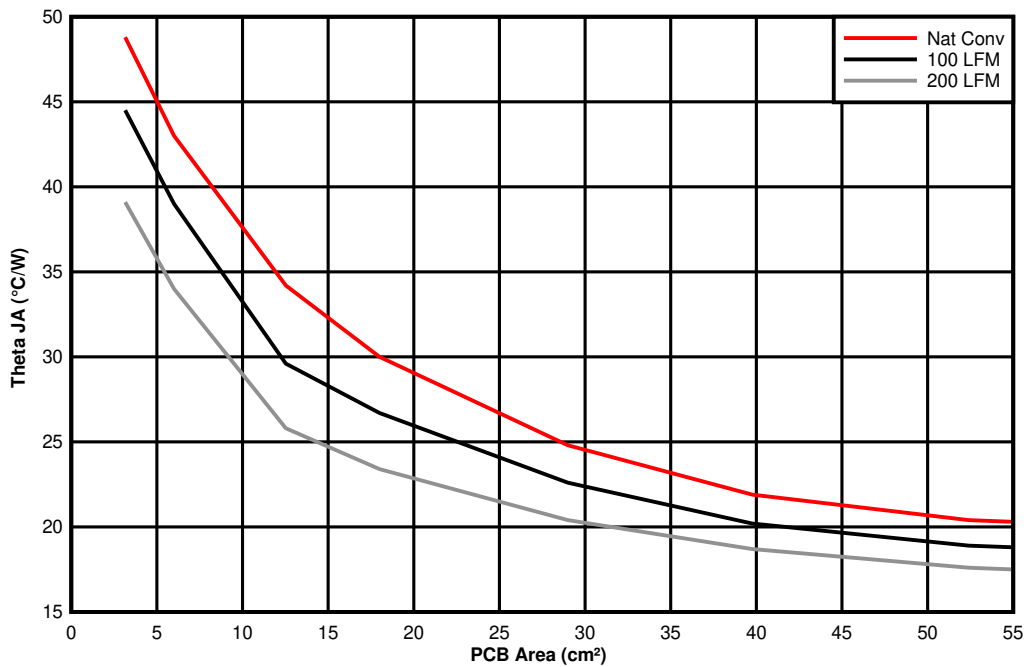

图 11-5. θ_{JA} vs PCB Area
The amount of PCB copper as well as airflow effects the thermal performance of the device. Figure 11-5 shows the effects of copper area and airflow on the junction-to-ambient thermal resistance ($R_{\theta JA}$) of the TPSM5601R5. The junction-to-ambient thermal resistance versus PCB area is plotted for a 4-layer PCB.
3. Reference Figure 11-5 to determine the minimum required PCB area for the application conditions.